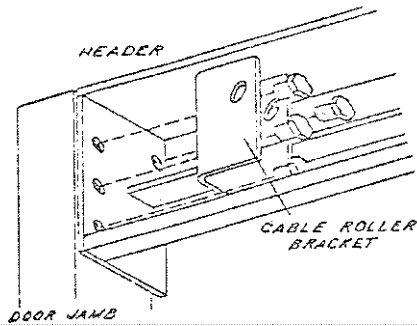

FIG. 6 Installation of pulley bracket.
6. Secure header in place with (4)  $\frac{1}{4}$ -20 H. H. C. S. Screws on the R. H. end and two  $\frac{1}{4}$ -20 H. H. C. S. on the L. H. end. Also install the cable pulley bracket with two  $\frac{1}{4}$ -20 S. H. C. S. as shown in FIG. 6.